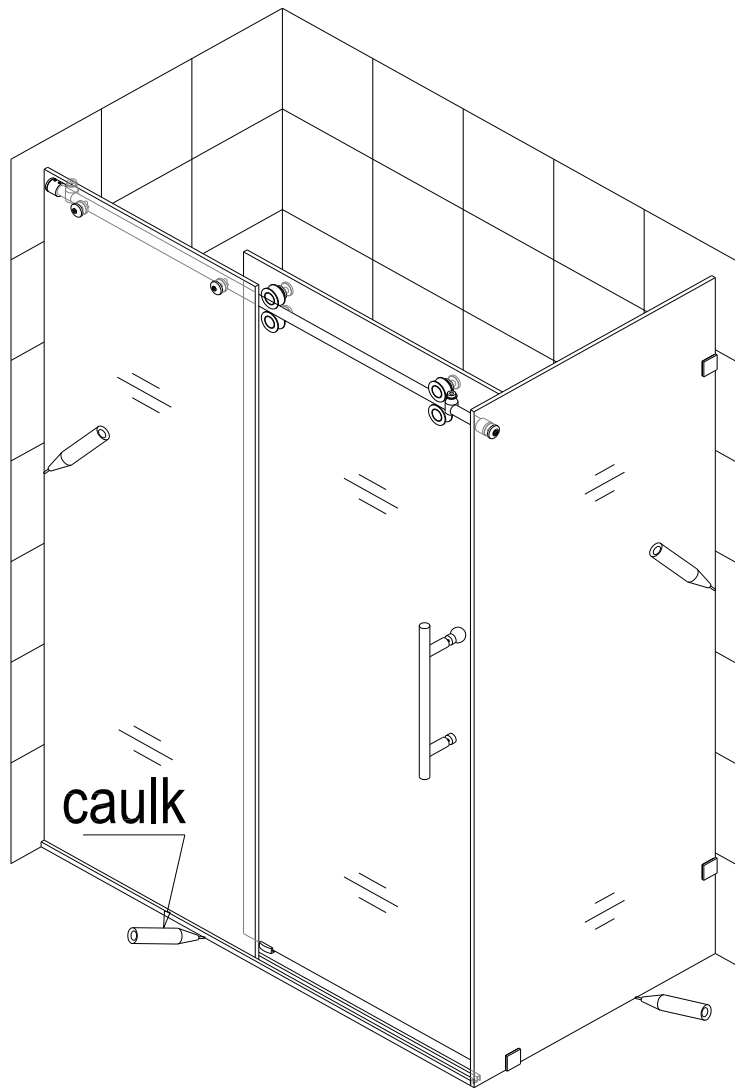

Fig. 21
11. Seal with silicone between threshold and floor and between glass panels and walls. See fig. 21 for details.